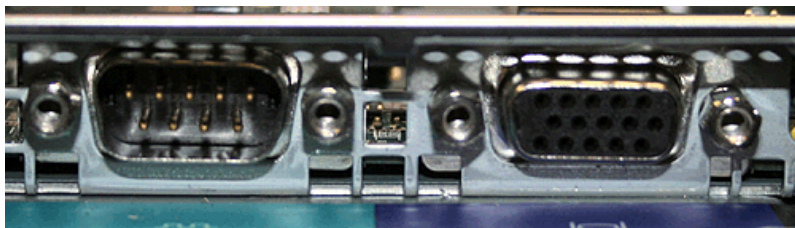

Figure 294. Serial and video ports on the SAN Volume Controller 2145-8G4
3. Replace the four stand-off screws from beside the I/O ports at the rear of the server. Figure 294 shows the location of the stand-off screws.